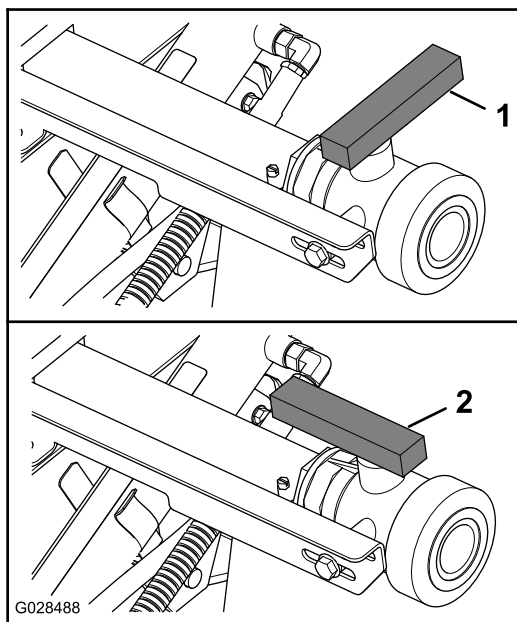

Figure 73
3. Open the valve to drain all unused material from the tank(Figure 73).
4. Close the drain valve (Figure 73).